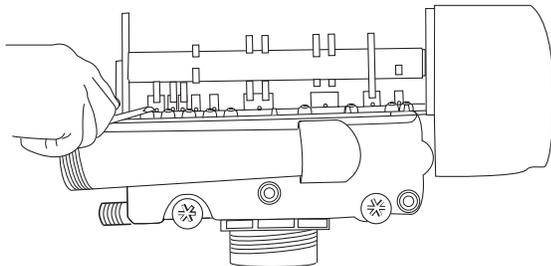

Figure 12
4. Relieve system pressure by opening the Backwash Drain Valve (the seventh valve back from the control) with a screwdriver, (Figure 12).
2. Relieve pressure by opening the Backwash Drain Valve (the seventh back from the control) with a screwdriver (Figure 12).